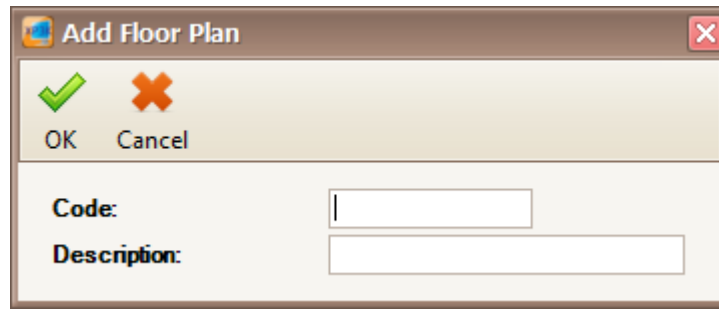

Figure 158 - Add Floor Plan
3. Click on Add button to add the new floor plan (Refer **Figure 158**).